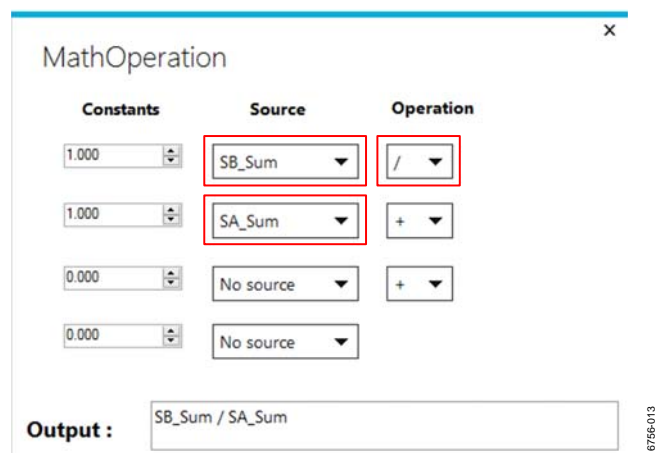

Figure 13. **Op Select** View
1. In the data view (see Figure 19), click the **Op Select** button to open the view shown in Figure 13. Select **SB_Sum**, **SA_Sum**, and the **/** operation, as shown in Figure 13, to configure the blue/IR ratio in the data view.